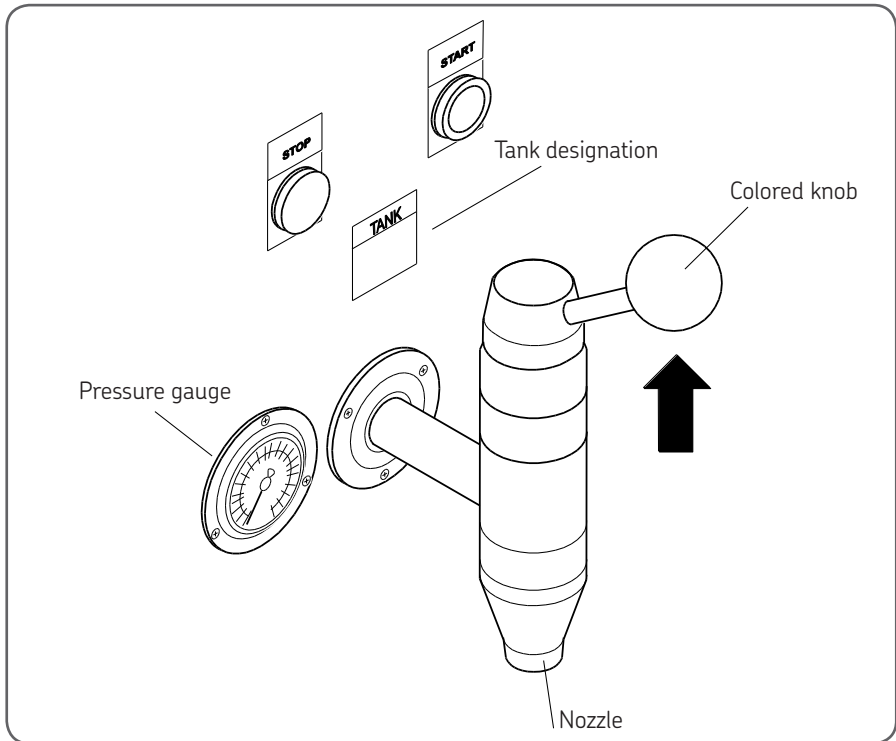

Fig 22 Operating the standard dispensing faucet
3. Lift up on the handle (if standard faucet). See figure 22 – or depress handle if brass fire upgrade faucet.